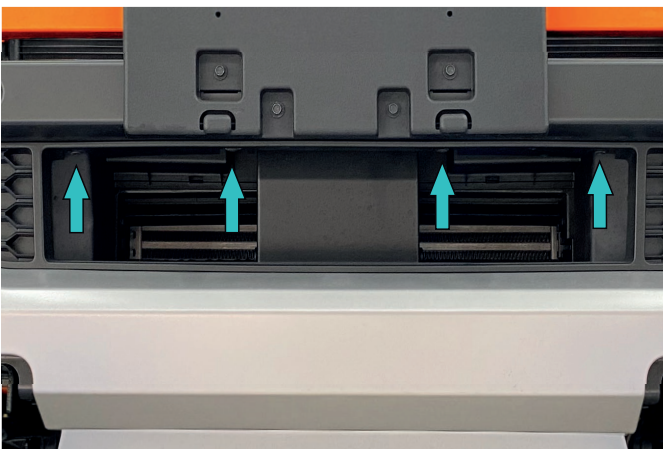

Fig.5
4. Remove the plastic grille (fig.4). The mounting points are show in the fig.5.
5. Unsrew 4 bolts (fig.5).